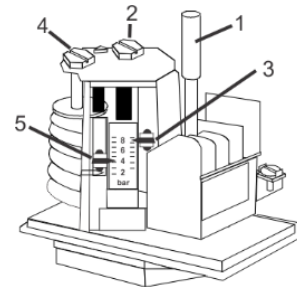

Fig. 2
- Version with manual reset (FF4-...DRH or DDH): pressure decrease below upper or increase above lower switch point and reset button 1 (per Fig. 2) depressed.